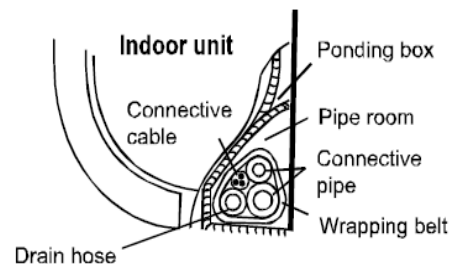

Figure 8
3. Bundle the tubing, connecting cable, and drain hose securely with tape, evenly, as shown in figure 8, on the right. Because the condensed water from rear of the indoor unit is gathered in a reservoir and is piped out of room, do not put anything else in the reservoir.
Be careful not to let the drain hose slack. Use insulation such as Armaflex to insulate the line set. Be sure that the drain hose is located at the lowest side of the bundle. See figure 8.